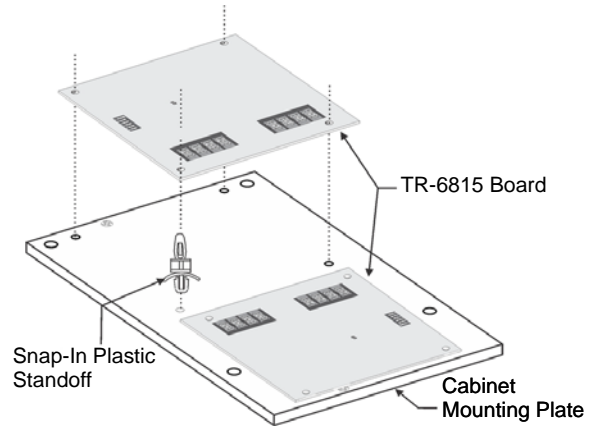

Figure 1 TR-6815 Board and Standoff Mounting Installation
- If you mount the TR-6815 in the TR-NIC-KIT, position the TR-6815 board(s) and snap them into place on the plastic standoffs as shown in Figure 1.
Figure 1 shows the TR-6815 components installation.